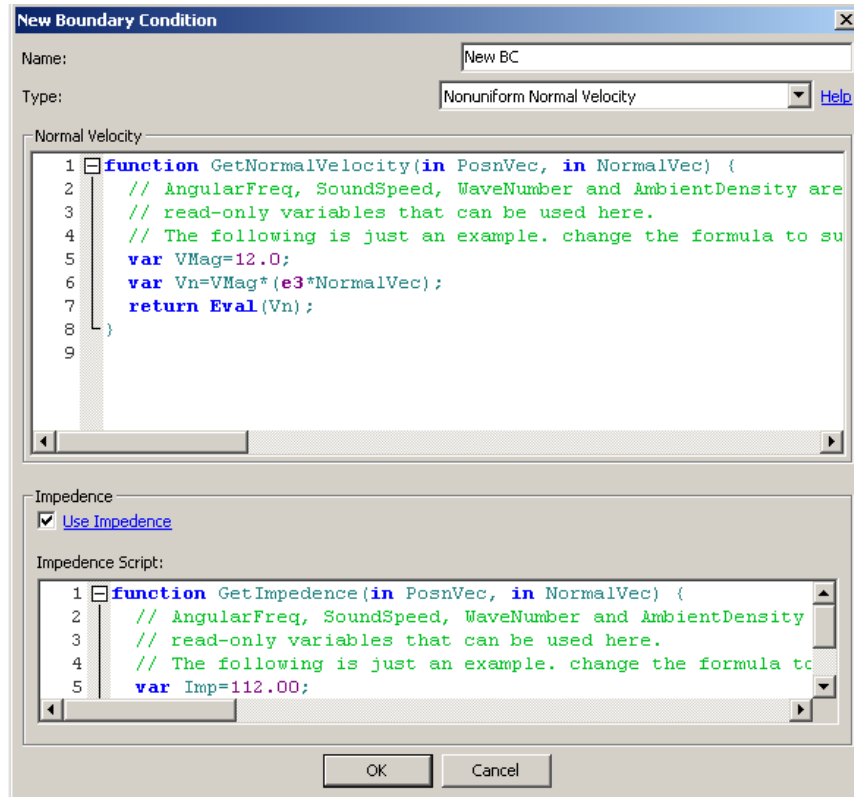

Figure 6.19 Non-Uniform Normal Velocity BC.
This Boundary Condition is applied on the element where normal velocity (Note: normal velocity is defined with respect to the domain normal, Figure 6.11) varies with position. The normal velocity is defined in the script by the function *GetNormalVelocity*, which takes in the predefined variables *PosnVec* and *NormalVec* as the arguments. The variable *PosnVec* reads the coordinates of a point on the element, that is $PosnVec=(x,y,z)$. The variable *NormalVec* reads the components of the domain normal vector at a point on the element, that is $NormalVec=(n_x,n_y,n_z)$. The special vectors **e1**, **e2**, **e3** are predefined unit vectors in coordinate directions of the reference frame which can be used in the *Coustyx* scripts. When *Use Impedance* option is disabled, the *Normal Velocity* defined in this boundary condition (BC) is considered to be the particle normal velocity (v_n). (Figure 6.19.)